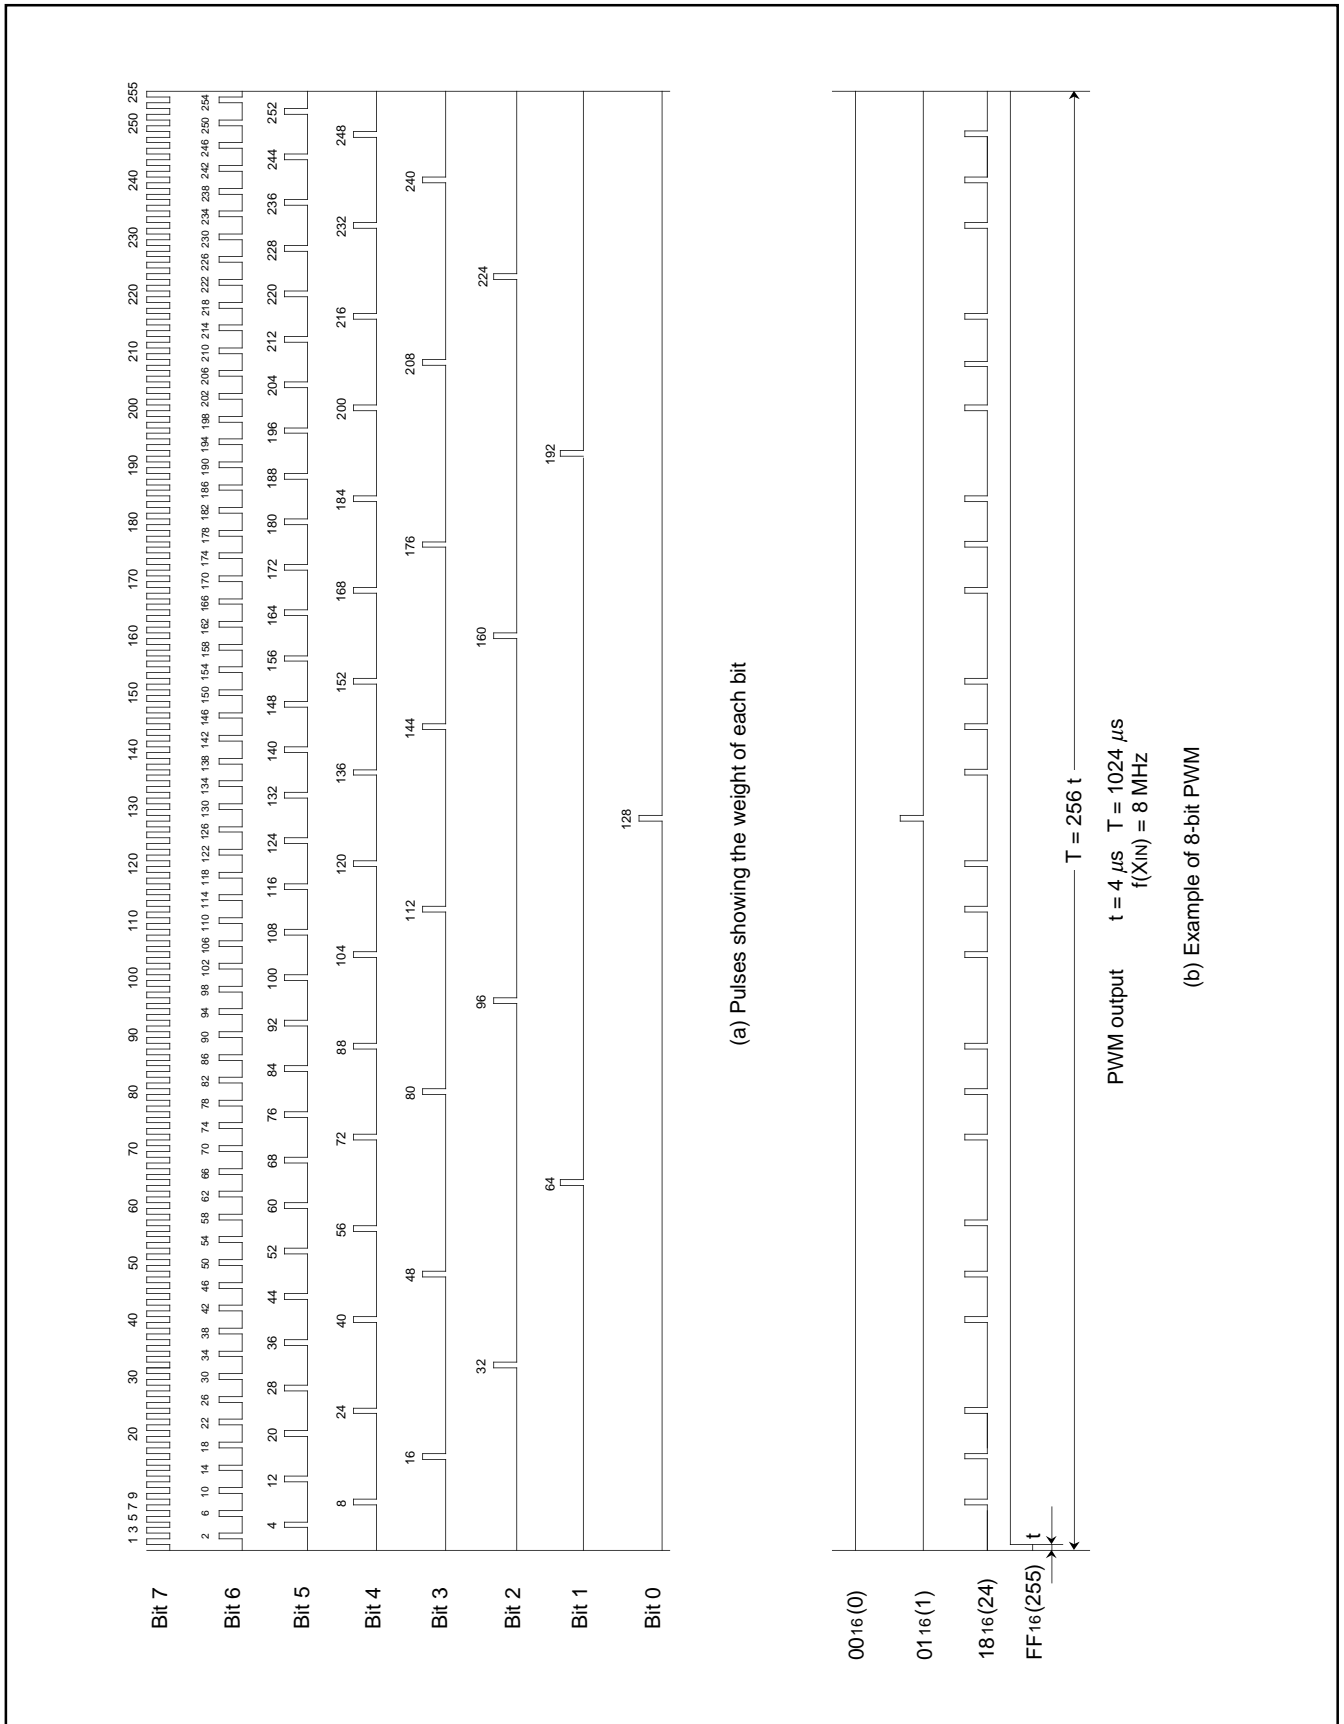

Fig. 24. 8-bit PWM timing
Figure 24 shows the 8-bit PWM timing. One cycle (T) is composed of $256 (2^8)$ segments. The 8 kinds of pulses relative to the weight of each bit (bits 0 to 7) are output inside the circuit during 1 cycle. Refer to Figure 24 (a). The 8-bit PWM outputs waveform which is the logical sum (OR) of pulses corresponding to the contents of bits 0 to 7 of the 8-bit PWM register. Several examples are shown in Figure 24